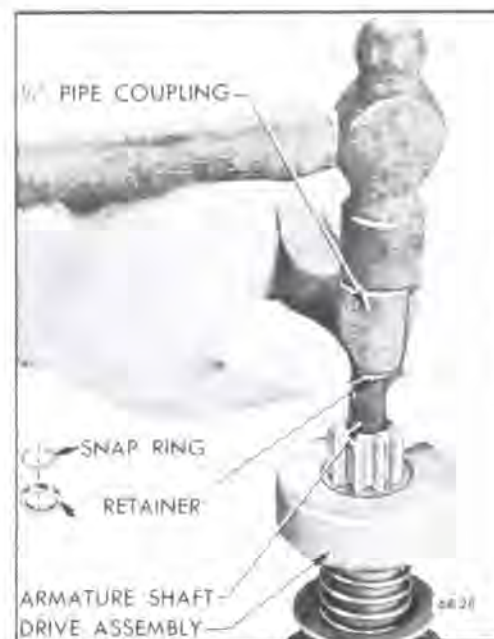

Figure 68-22--Removing Pinion Stop Retainer and Snap Ring
7. To remove drive assembly from armature, place a metal cylinder of proper size (1/2" pipe coupling will do) over end of shaft to bear against the pinion stop retainer. Tap retainer toward armature to uncover snap ring. See Figure 68-22. Remove snap ring from groove in shaft, then slide retainer and pinion drive assembly from shaft.